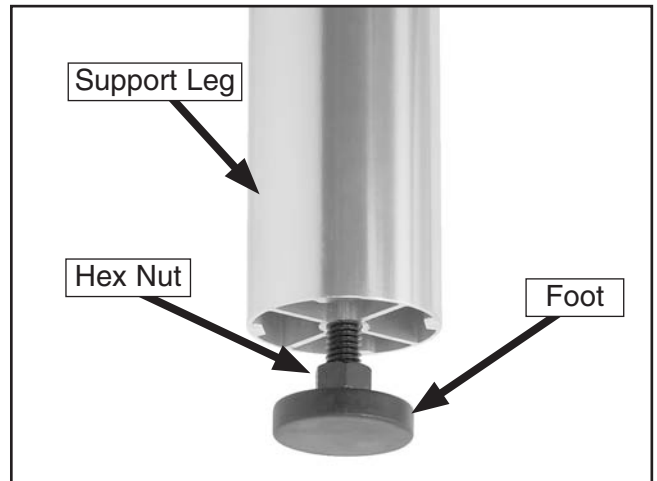

Figure 16. Foot installed on support leg.
10. Thread a ³/₈-16 hex nut on each foot and thread the feet into the bottom of the support legs as shown in **Figure 16**.